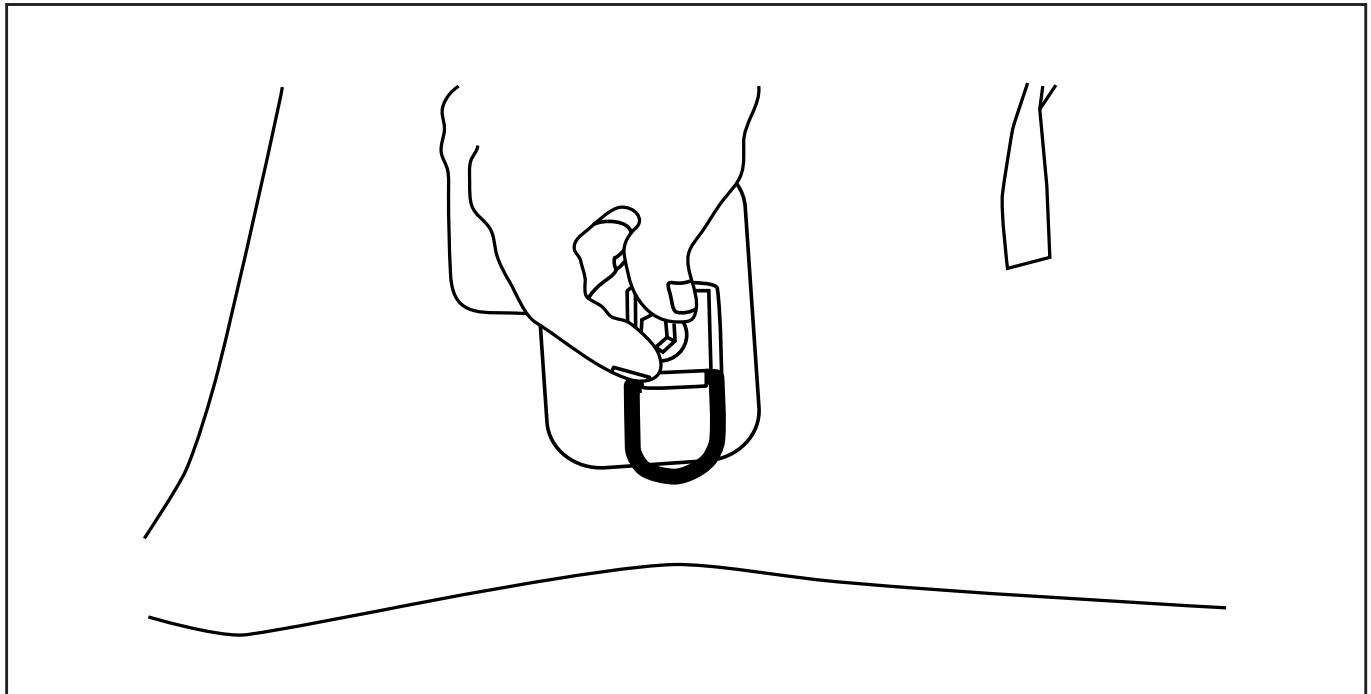

Fig. 11
12. Install D-rings (both sides) (Fig. 11).